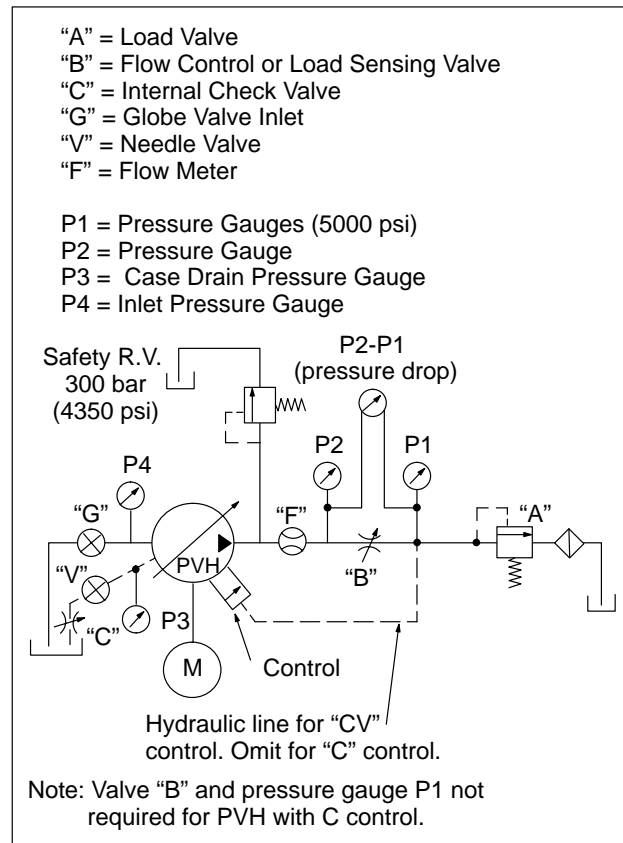

Figure 30: C, CV Control Test Circuit
2. Connect the case line, inlet and outlet line, load sensing line (if required), pressure gauges, and other equipment as described in Figure 30. Make sure all connections are tight.
3. Remove drain plug (1) from valve block (8) and fill the pump with clean hydraulic fluid. Reinstall the plug and torque to value noted in Table 3.
**C Control:** (refer to Figure 30)
### CV Control: (refer to Figure 30)
Refer to Figure 30 during the following procedure.